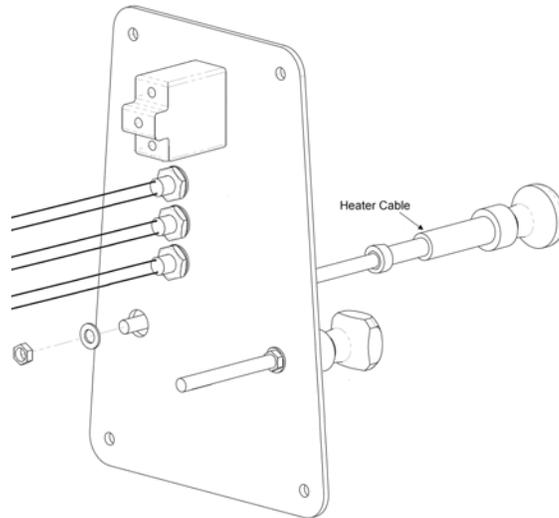

Figure 21-15 Heater Cable Assembly
- Remove the nut and washer as shown in Figure 21-15.
8. Secure the cable with the washer and nut as shown in Figure 21-15.